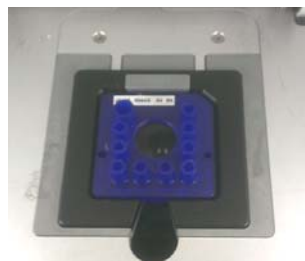

Figure 7. Chip in the LabChip GXII Touch
- 4 Insert the chip into the LabChip GXII Touch instrument (see Figure 7) and close the chip door securely.